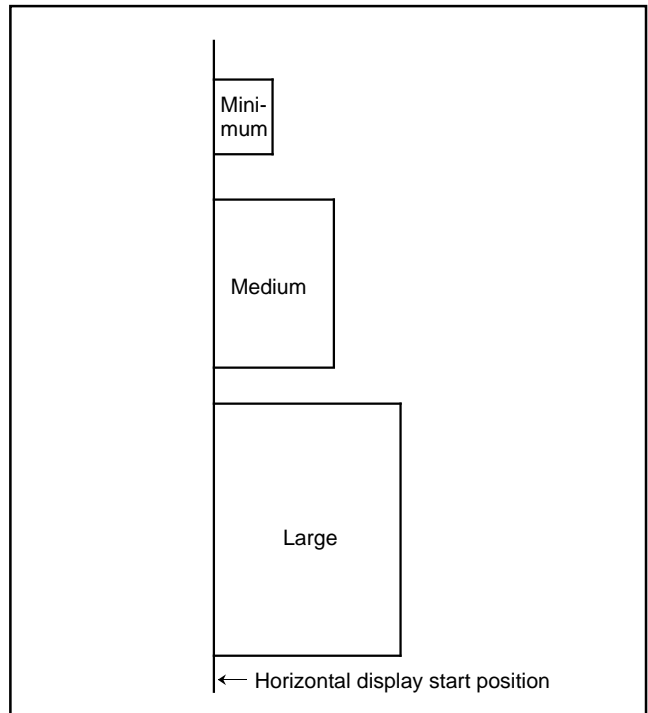

Fig. 39. Display start position of each character size (horizontal direction)
**Note:** The display start position in the horizontal direction is not affected by the character size. In other words, the horizontal display start position is common to all blocks even when the character size varies with each block (refer to Figure 39).